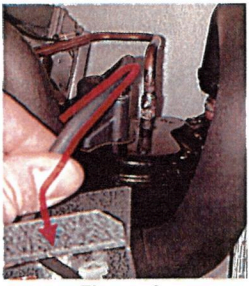

Figure 6
4. Route the fan wire up and over the compressor, then under the discharge tube and over the suction tube U-bend. (Figure 6)